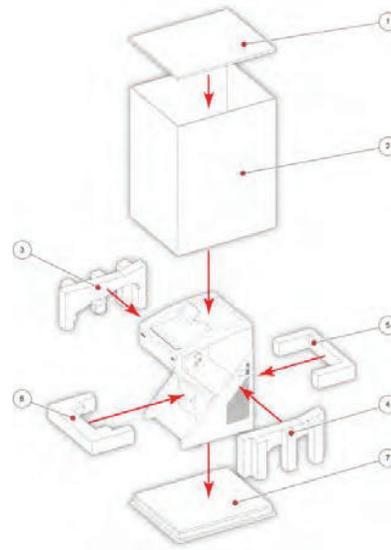
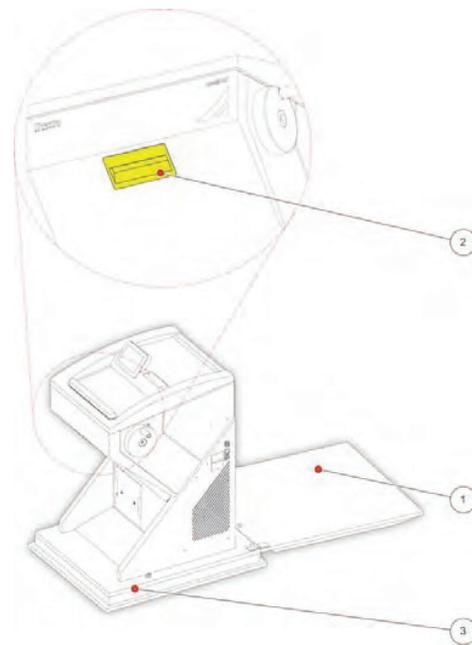

Fig 1
Fig 1a
- Remove the upper wooden cover (fig. 1) (item 1).
- Lift the packing over the instrument (fig. 1) (item 2).
The upper wooden cover now serves as a ramp (fig. 1a.1) on which the QS12 can be moved from the pallet to the floor by using the handle (fig. 1a) (item 2).
- The hinges of the upper wooden cover (fig. 1) (item 1) are inserted into the screws of the bottom plate (fig. 1a) (item 3). The correct side for this is marked with arrows.
- Turn the setting feet completely upwards via this tool so that the QS12 stands with its rollers on the bottom plate (fig 1a) (item 3).
- Via the handle (fig 1a) (item 2), roll the QS12 from the bottom plate (fig. 1a)(item 3) over the wooden cover (fig. 1a) (item 1). In doing so, the rear side of the instrument must face the incline (fig. 1a) (item1).